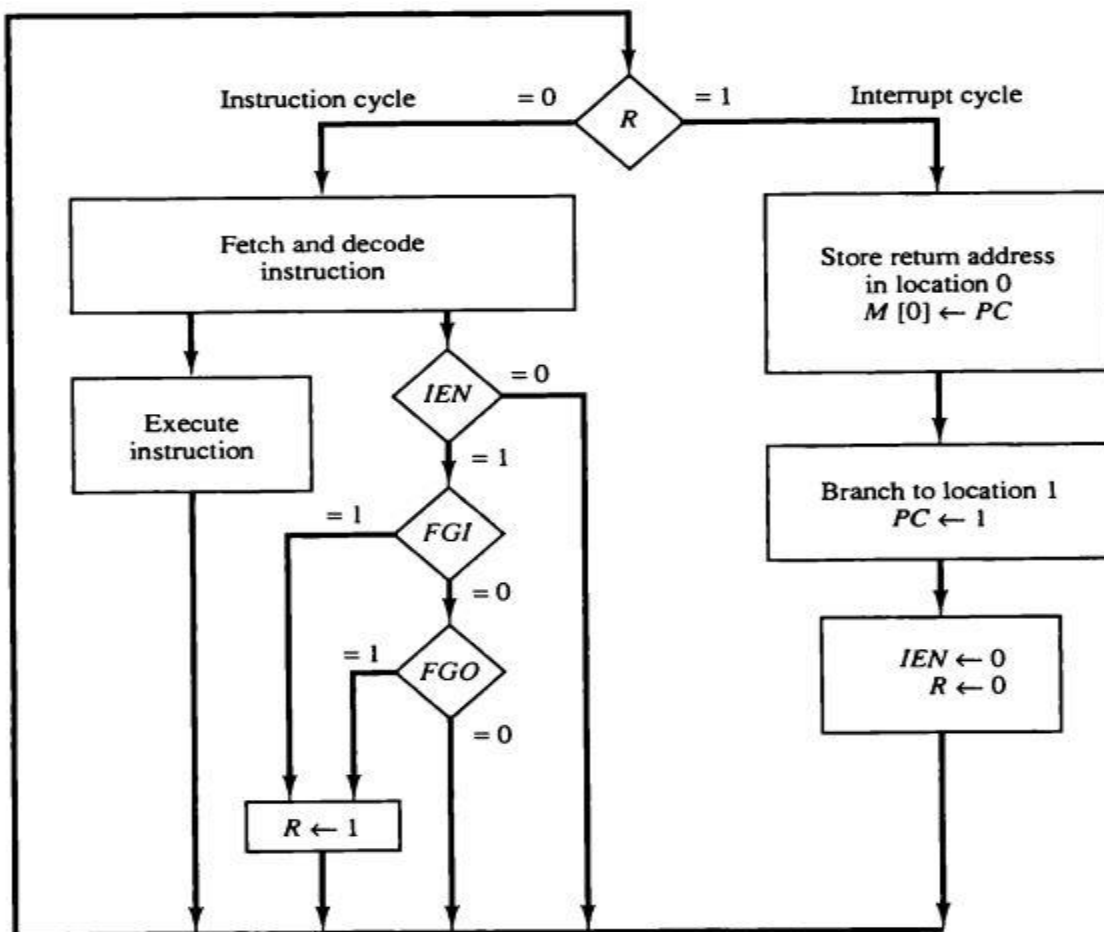

Figure 1-MM: Flowchart for interrupt cycle
- An example that shows what happens during the interrupt cycle is shown in Fig 1-NN.